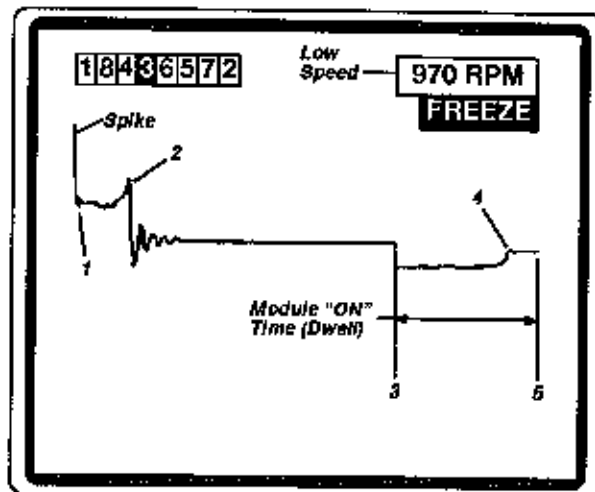

Figure 163
**Current Regulating Electronic Primary, Idle Speed** (See Figure 163)